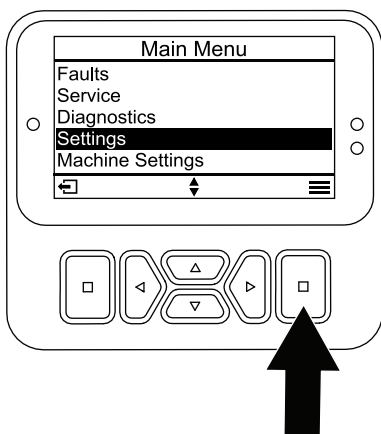

Figure 32
1. From the MAIN MENU, scroll down to the SETTINGS menu and press the select button (Figure 32).